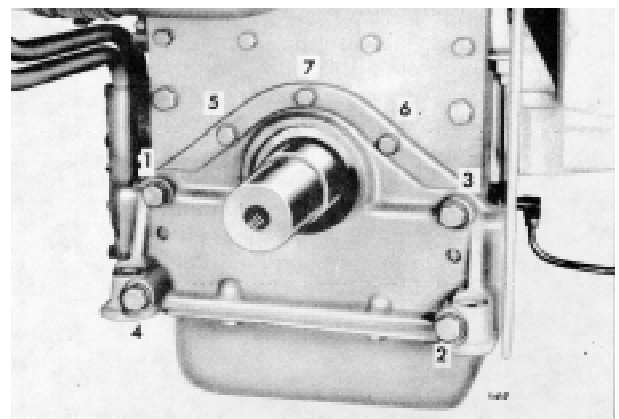

Fig. 3. Crankshaft Front Cover Bolt
5. Tighten the cover attaching bolts by following the tightening sequence indicated in Fig. 3. Follow this sequence as the bolts are drawn up and then tightened to their proper torque to effect a good seal between the mating parts. Tighten the 3/8"-24 bolts to 25-30 lb-ft (34-41 N•m) and the 1/2"-13 bolts to 80-90 lb-ft (108-122 N•m) torque.